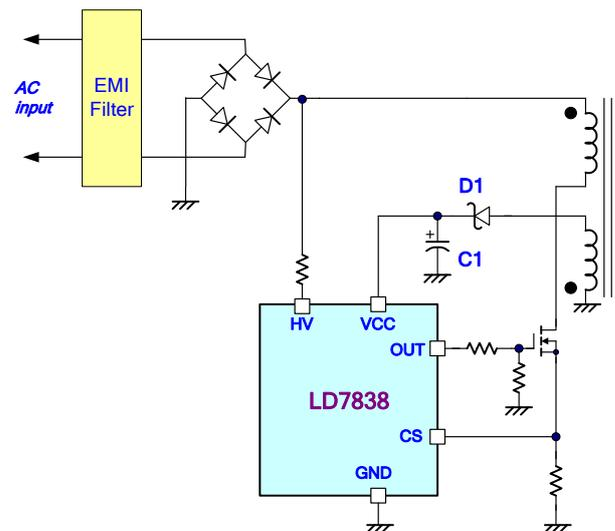

Fig. 13
To achieve optimized topology, as shown in Fig. 13, LD7838 is implemented with a high-voltage startup circuit to enhance it. During startup, a high-voltage current source sinks current from the full-bridge rectifier to provide the startup current and charge V_{CC} capacitor C1 at the same time. On condition of V_{CC} below UVLO(ON), the charge current will increase to 1.8mA once V_{CC} rises above UVLO(ON) voltage threshold during start up. Meanwhile, it consumes only 75 μ A for V_{CC} supply current, that most of the HV current is